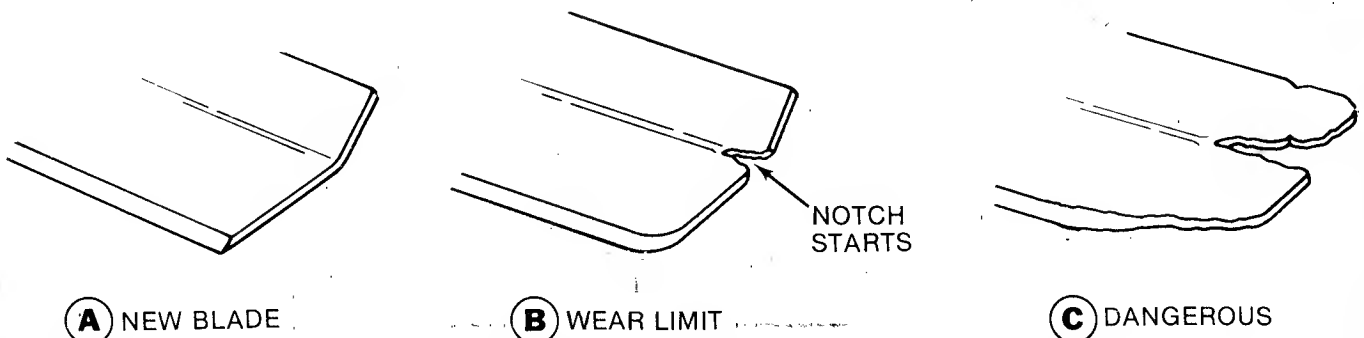

FIGURE 5 — BLADE WEAR PATTERNS
**REPLACE** blade if badly chipped, bent, out of balance or as soon as a notch starts wearing in the tip between the flat surface and upturned lift as depicted in View B, Figure 5. This type wear pattern occurs more rapidly under sandy soil conditions. **CAUTION:** Never operate the mower with blade worn to the extent shown in View C as the tip could fly off causing personal injury or property damage.